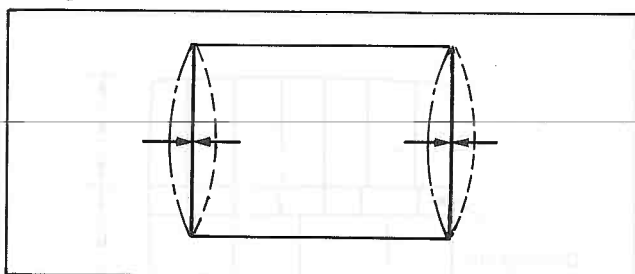

Fig. 49
- Adjust the R768 (Side Pincushion Control) so that the both of the Side Vertical lines are straight as shown in Fig. 49.